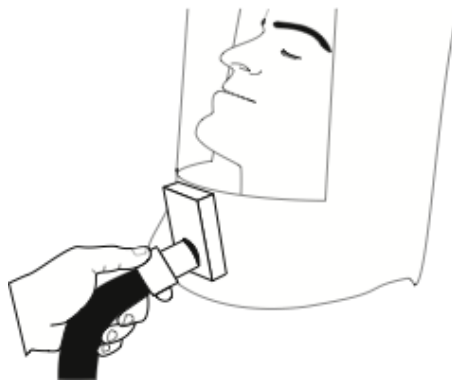

Fig. 7
16. Polar Breeze® cools most efficiently through its Hood whereby the scalp and face are cooled prior to breathing cold air. Cold air in the lungs preferentially cools the bloodstream and thereby the internal organs. *Thus Polar Breeze® cools you from the inside out when the Hood is used.* The Hood/Hose connection can be before the face (Fig. 7) or behind the neck depending on your preference. The mildly stiff rim at the bottom of the Hood should be placed beneath the collar of user's shirt to hold the Hood in place and to exhaust its cold air over the chest and back.